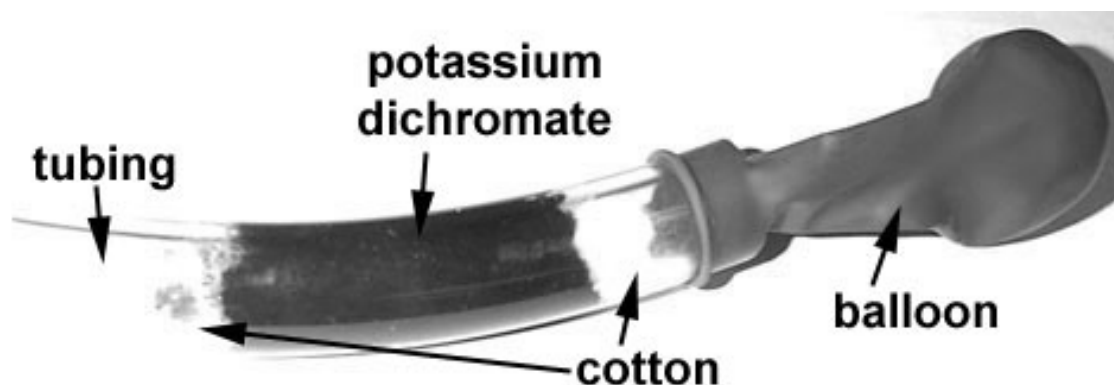

Figure 4. A successfully completed breath analyzer test.
8. Attach the balloon to the end of the tube opposite the one you put the mixture into (the clean end). Release the air and record your observations (Figure 4).